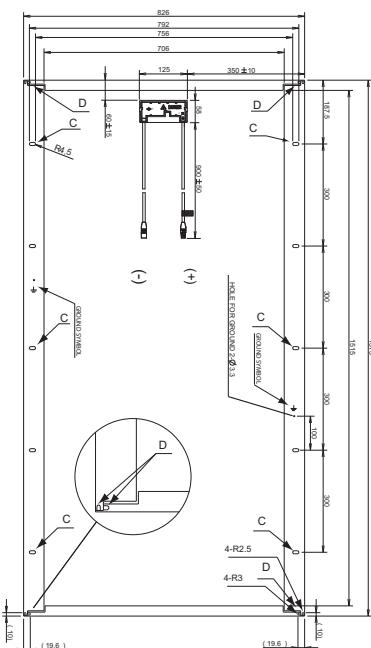

Figure 1
The modules may be fastened to a support using the bolt holes in the bottom of the frame at location "C", as shown in Figure 1 (back view of the module) and Figure 2 (mounting detail). The module should be fastened with six (6) M8 (5/16") bolts. Take care during installation to not block the drain holes (D) shown in Figure 1.
The modules may be mounted using clips (clamps) designed for solar modules as shown in Figures 3 and 4. Note that the clip positions are important – the clip centerlines must be between 6.4" (162mm) and 15.5" (393mm) from the end of the module. The module must be supported along the length of the long edge, and should overlap the array rail by at least 0.4" (10mm). Note that the mounting clips should meet the minimum dimensions (catch width of 0.2" (5mm) and length of 1.2" (30mm)) as shown in Figure 3. The array rails must support the bottom of the modules and must be continuous pieces (no breaks in the rail). Take care during installation to not block the drain holes (D) shown in Figure 1.
The modules may also be mounted using clips on the long sides of the module when the array rails are perpendicular to the long sides, as shown in Figure 5. The clip centerlines must be between 6.4" (162mm) and 15.5" (393mm) from the ends of the module. Note that the mounting clips should meet the minimum dimensions (catch width of 0.2" (5mm) and length of 1.2" (30mm)) shown in Figure 3. The array rails must support the bottom of the modules and must be continuous pieces (no breaks in the rail). Take care during installation to not block the drain holes (D) shown in Figure 1.